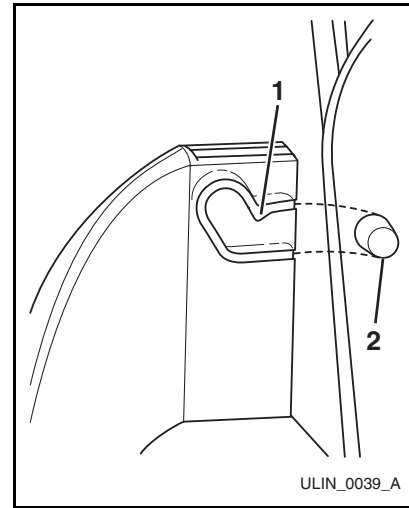

Figure 22
2. Carefully pull shelf off bosses (**Figure 22, 2**).
1. Holding shelf in center, align notches (**Figure 22, 1**) in shelf with bosses (**Figure 22, 2**) in door.